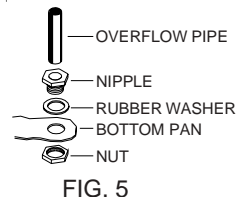

FIG. 5
- **Install overflow assembly.** Remove nut and place nipple through the hole in the pan, with the rubber washer between the pan and the head of the drain nipple (Fig. 5). Screw on nut and draw up tight against bottom of pan. Insert overflow pipe in nipple to retain water. Overflow pipe may be removed to drain pan when necessary. A garden hose may be screwed on the drain nipple to drain water away from your unit.